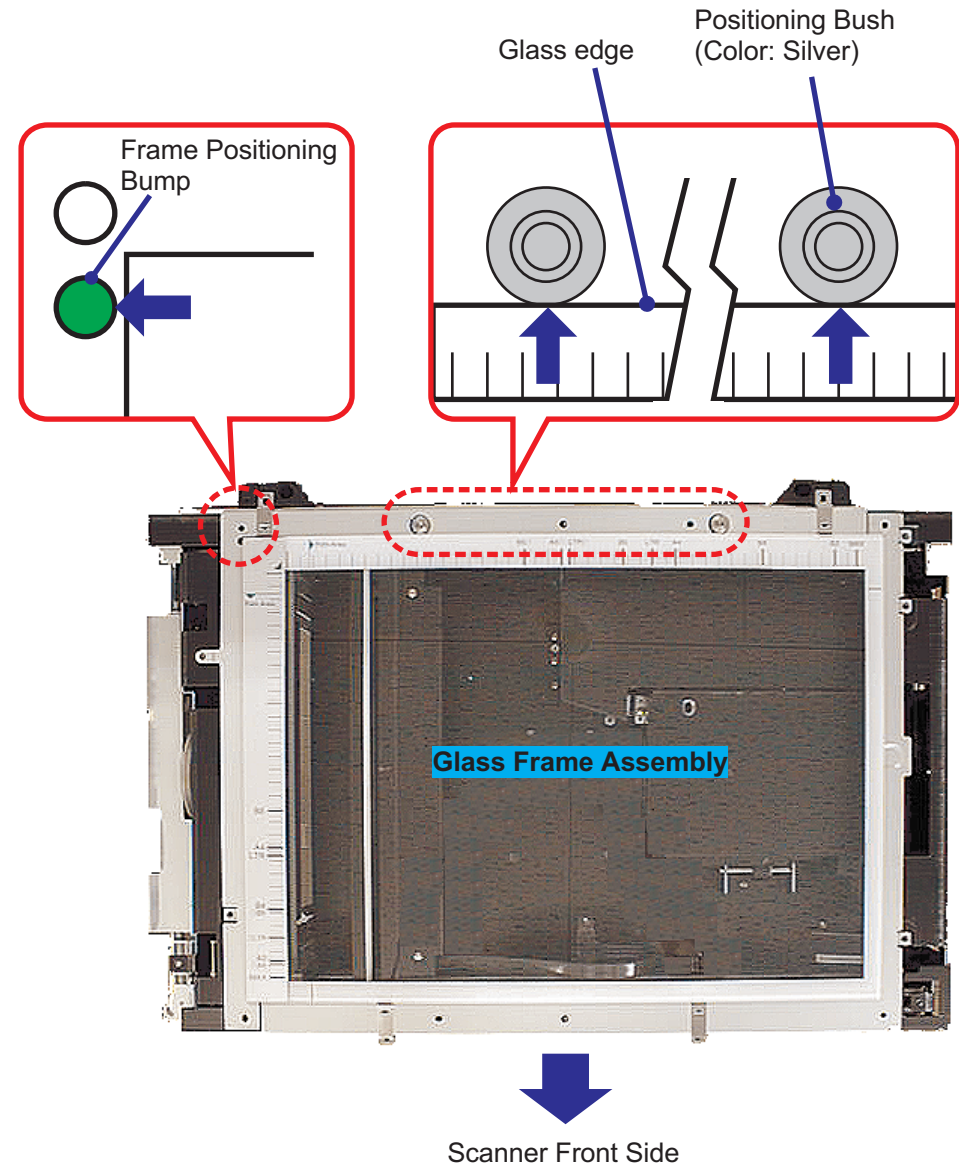

Figure 4-17.
2. Referring to the Figure 4-17, determine the installation position for the glass frame assembly.